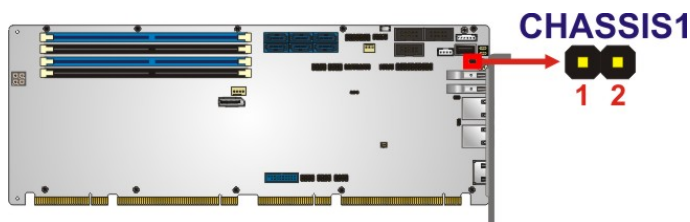

Figure 3-5: Chassis Intrusion Connector Location
- CN Location:** See **Figure 3-5**